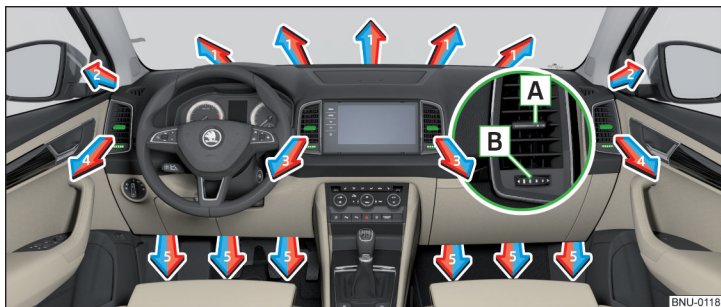
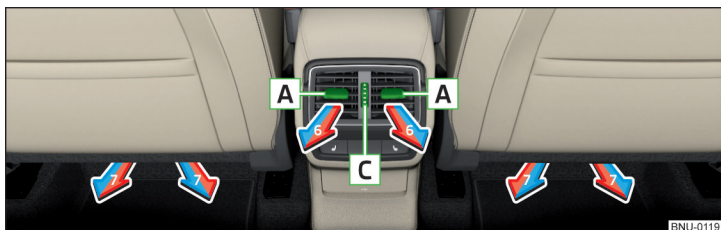

Fig. 161 Air outlet vents
Fig. 162 Air vents at the rear
The direction of airflow can be adjusted using the air outlet vents **3, 4** » Fig. 161 and **6** » Fig. 162, and the vents can be opened and closed individually.
The setting of the airflow direction is carried out by moving the adjustment element **A** » Fig. 161 or » Fig. 162 in the desired direction.
- » Turn the regulator **B** » Fig. 161 downwards.
- » Turn the regulator **C** » Fig. 162 upwards.
- » Turn the regulator **C** » Fig. 162 downwards.
Set the direction of the air outlet	Air vents » Fig. 161 and » Fig. 162